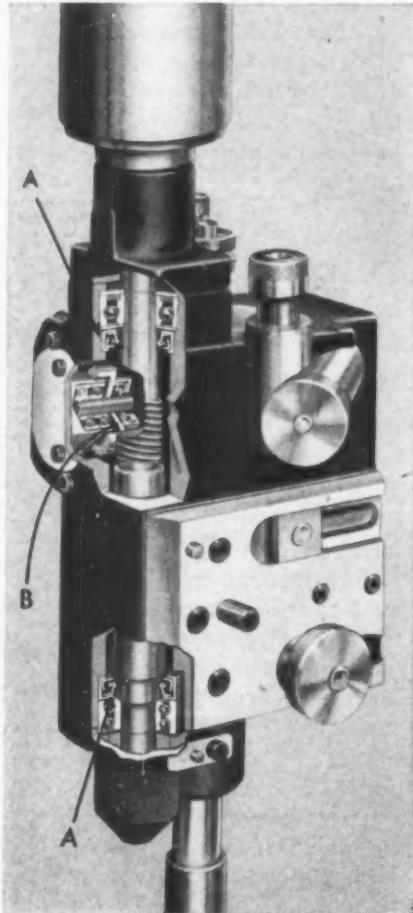
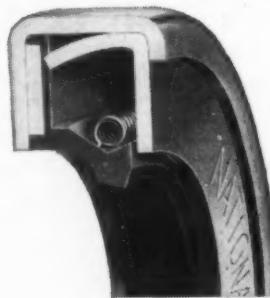

Figure 1
Figure 2
Two unusual shaft sealing problems are present in the rotary valve seat grinder for large gasoline and diesel engines (Fig. 1). Rotary speeds from 300 to 12,000 rpm, shaft whip, reciprocating action and extreme external abrasive conditions require oil seals of unusual dependability.
In the sectional drawing (Fig. 1), the main shaft driving the abrasive wheel rotates at 12,000 rpm. This shaft also engages a secondary worm gear to rotate the entire grinder around the periphery of the valve seat. National 50,000-S Syntech (Fig. 2) seals, spring-loaded, single wipe units are installed just inside the pre-loaded ball
bearings (A) on the main shaft and outside the conventional bearing (B) on the horizontal shaft (in Fig. 1). These seals retain a light lubricating oil in the open double row bearing (B) and the high-speed worm gear. Even though flooding is encountered, zero leakage performance must be achieved to prevent flooding of the grinding wheel. The high speed and angle thrust on this spindle result in shaft whip, which demands flexibility in the oil sealing members. National Syntech\* oil seals are ideal for this application, because their inherent flexibility and carefully designed flex section provide effective sealing under eccentric